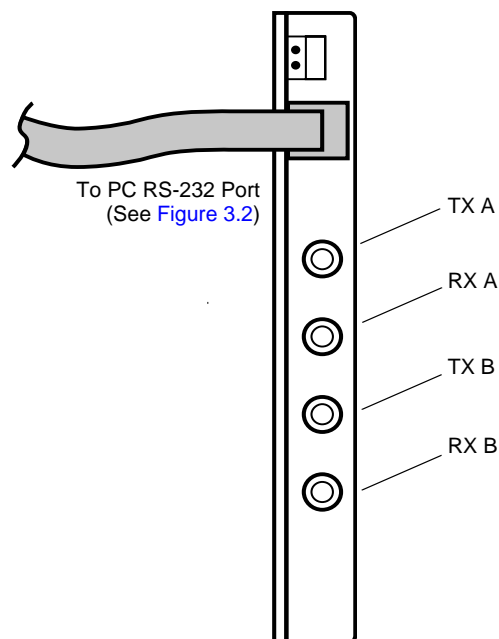

Figure 3.4 OW-LITE-NF Network Connections
- Connect the fiber-optic connectors to the OW-LITE-NF as shown in Figure 3.4.